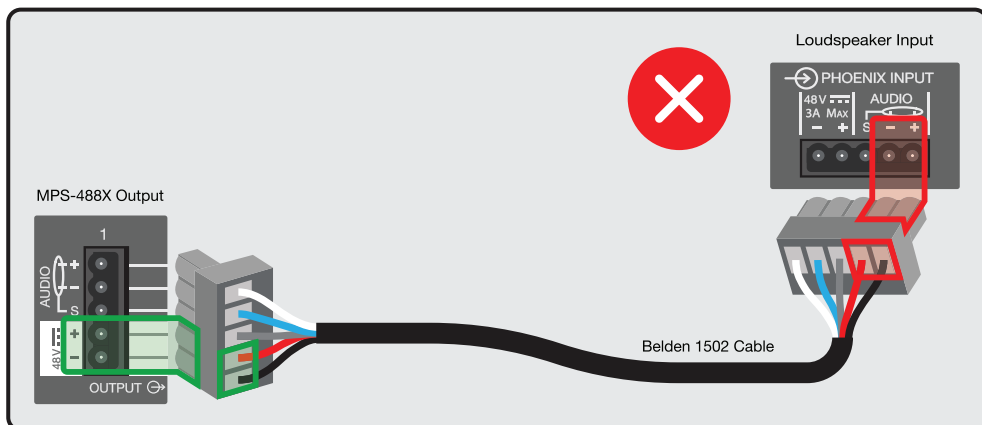

Figure 1. Incorrect, Power Supply 48 V DC Pins Connected to Audio Pins of Loudspeaker.
- 1) If the 48 V DC pins of this power supply are connected to the audio input pins of an IntelligentDC loudspeaker (Figure 1).